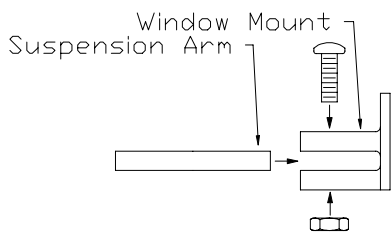

Figure 6 - Suspension Arm & Window Mount
4. Using a #8 machine screw and a #8 machine nut, loosely assemble a suspension arm to a window mount (as shown in Figure 6). Repeat for the second suspension arm and window mount.